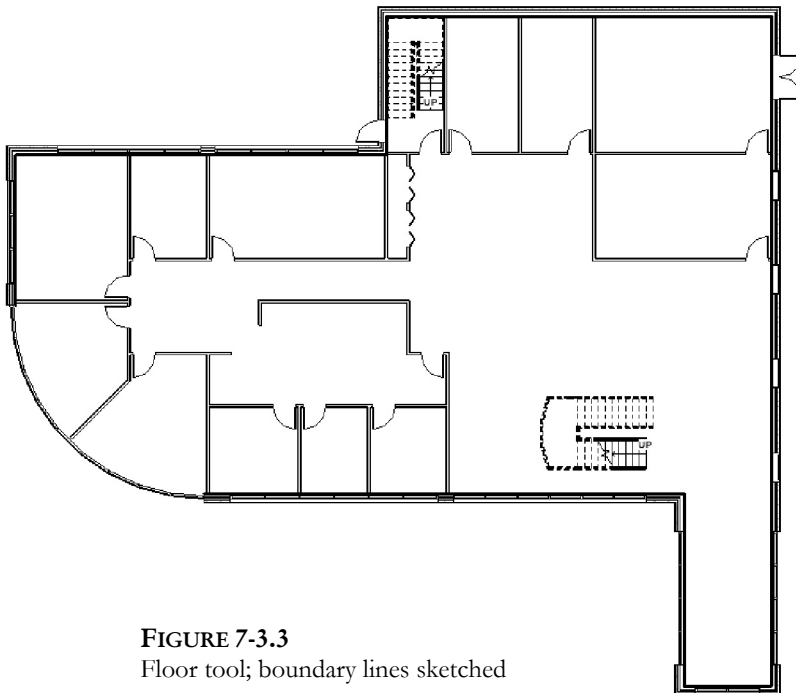

FIGURE 7-3.3
8. Select the interior side of each exterior wall, with the exception of the curtain wall (do not select it yet). See Figure 7-3.3.